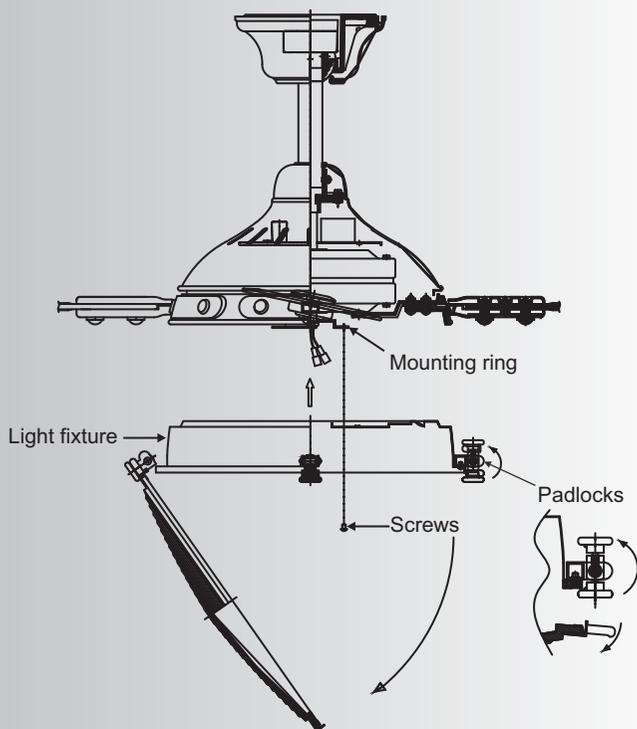

Fig. 18
1. Loosen the two screws on the mounting ring attached to the motor shaft and "remove" and save the third screw. (Fig. 18)
3. Loosen the padlocks on one side of the light fixture allowing the lens holder to open. (Fig. 18)